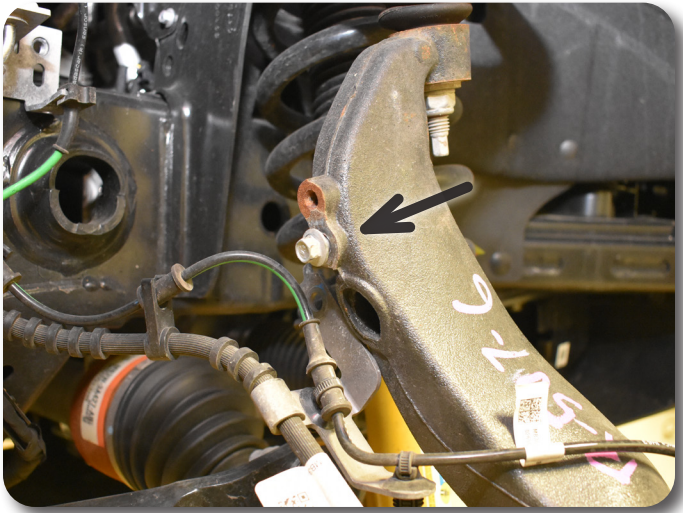

Figure 2
5. Disconnect the front brake line and ABS line from the steering knuckle. Figure 2